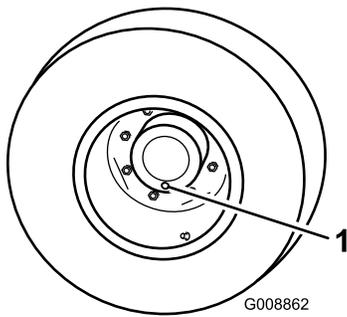

Figure 67
1. Position the machine on a level surface and position a wheel so that 1 of the check plugs is at the lowest (6 o'clock) position (Figure 67).